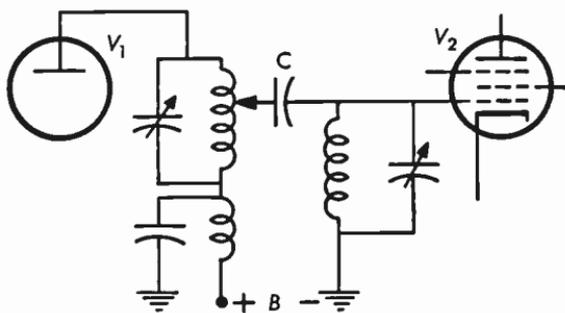

Fig. 6.11 Capacitance-coupled r-f amplifier.
6.11 The radio-frequency amplifier of Figure 6.11 has a grid input impedance of 5000 ohms to V_2 , and a load of 4000 ohms for V_1 . What is a suitable value for the coupling capacitor if the circuit is tuned to 8 megacycles?